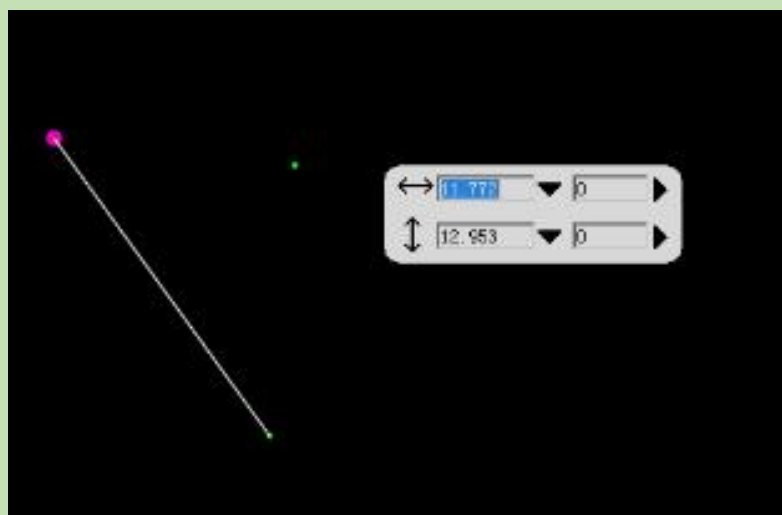

Figure4-94
4. Outline point: Select the point outside the line tool. Click on the two endpoints of the line respectively. Then, hold down the left mouse button at the end point and drag the mouse. Next, click the left mouse button to make a dialog box like the one shown in the following figure pop up. Finally, set it according to your needs (Figure 4-94).